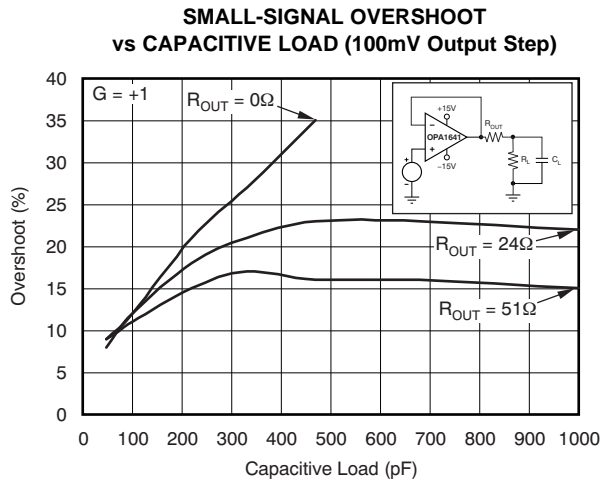
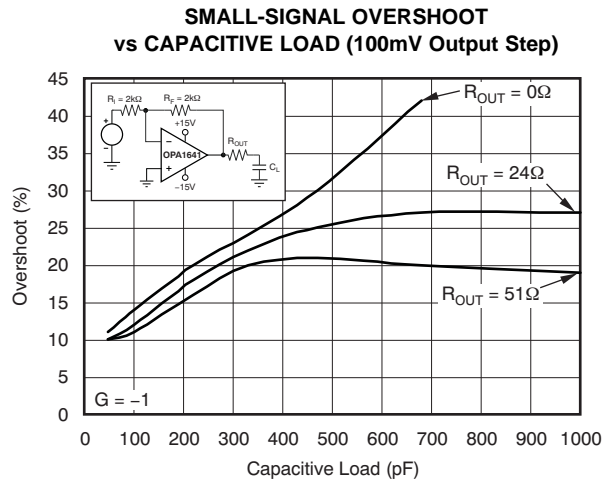

Figure 21.
Figure 22.
(2) See Figure 21 and Figure 22.
Figure 21 and Figure 22 illustrate graphs of *Small-Signal Overshoot vs Capacitive Load* for several values of R_{OUT} . Also, refer to Applications Bulletin AB-028 (literature number SBOA015, available for download from the TI web site) for details of analysis techniques and application circuits.